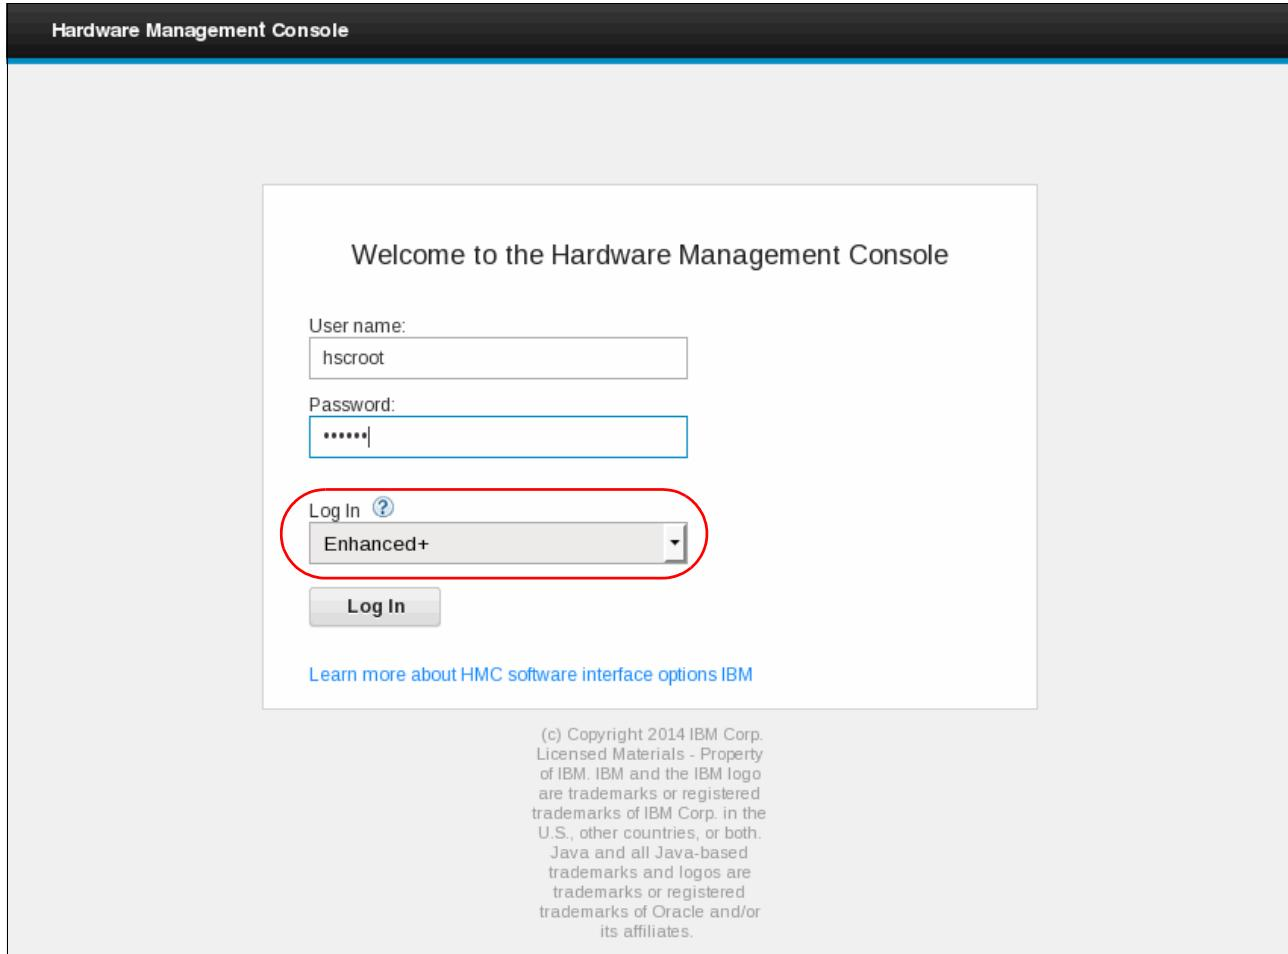

Figure 3-108 HMC Welcome login panel
37. The new HMC Welcome panel proposes to log in (Figure 3-108). Select the new **Enhanced+** login, and log in with the hscroot user.